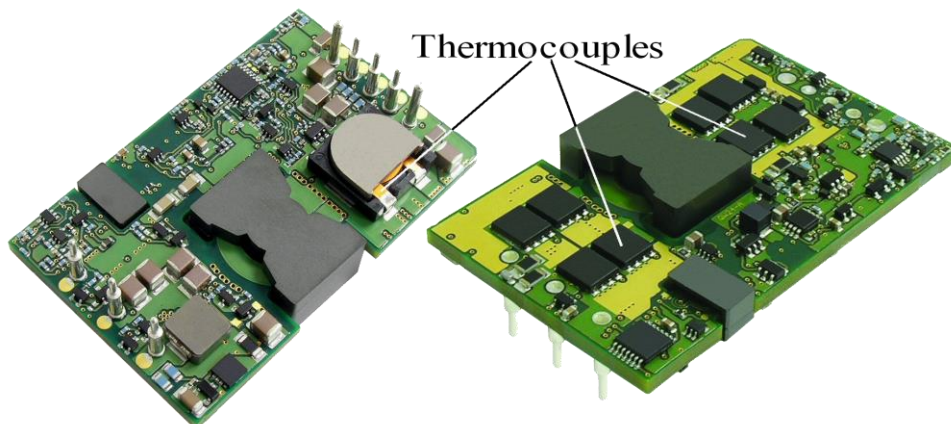

Figure 8. Location of the thermocouple for thermal testing.
Ensuring components on the converter do not exceed their ratings is important to maintaining high reliability. If one anticipates operating the converter at or close to the maximum loads specified in the derating curves, it is prudent to check actual operating temperatures in the application. Thermographic imaging is preferable; if this capability is not available, then thermocouples may be used. The use of AWG #40 gauge thermocouples is recommended to ensure measurement accuracy. Careful routing of the thermocouple leads will further minimize measurement error. Refer to Fig. 8 for the optimum measuring thermocouple location.
- (i) The output current at which temperature of thermocouples (Figure 8) does not exceed 125 °C or
During normal operation, derating curves with maximum temperature of 125 °C should not be exceeded. Temperature at the thermocouple location shown in Fig. 8 should not exceed 125 °C in order to operate inside the derating curves.